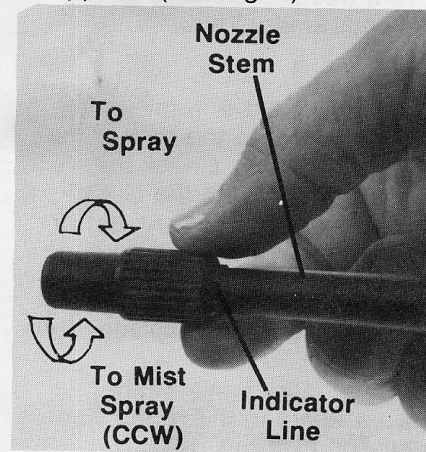

Fig. 8
**NOTE:** Do not turn Nozzle clockwise beyond point where Indicator Line on Nozzle Stem appears (see Fig. 8).